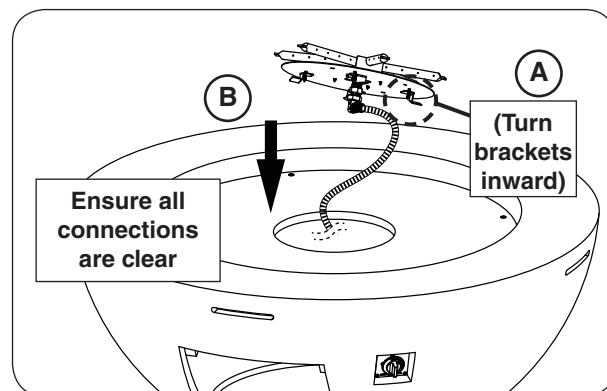

Fig. 25-2 Insert burner assembly
1. Ensure that the four burner brackets are turned inward, then insert the burner assembly (see Fig. 25-2, A-B).